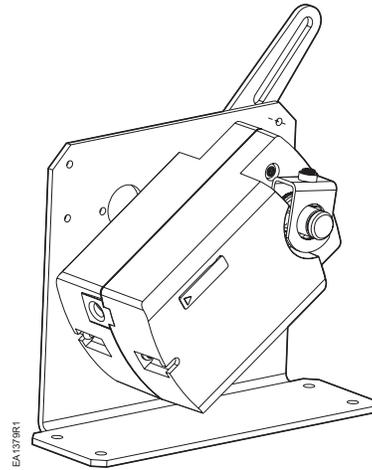

Figure 4. Inside Mount.
- Determine what side and in what orientation the GQD Actuator should be mounted before assembling the bracket. (See Figure 4 and Figure 5.)